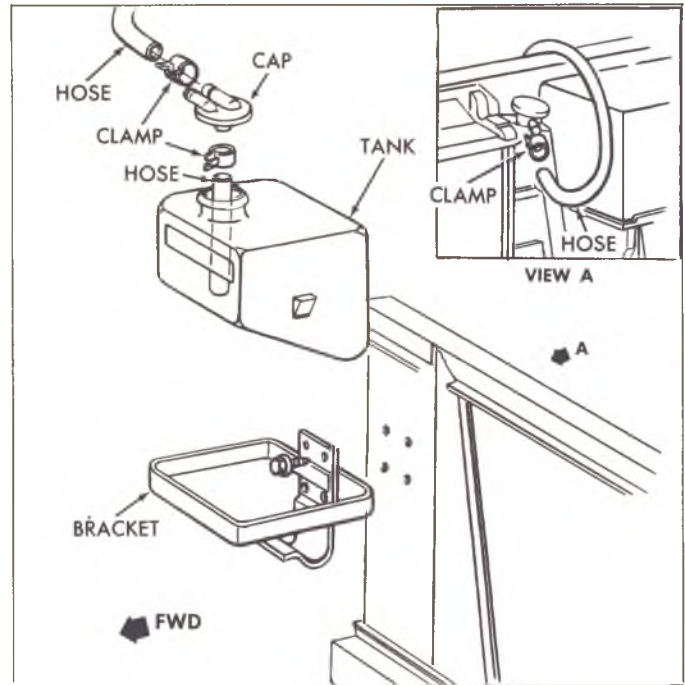

Fig. 7—Coolant Recovery Tank—P(42) Series
Refer to Figure 7 for removal and installation of coolant recovery system on P(42) Series.